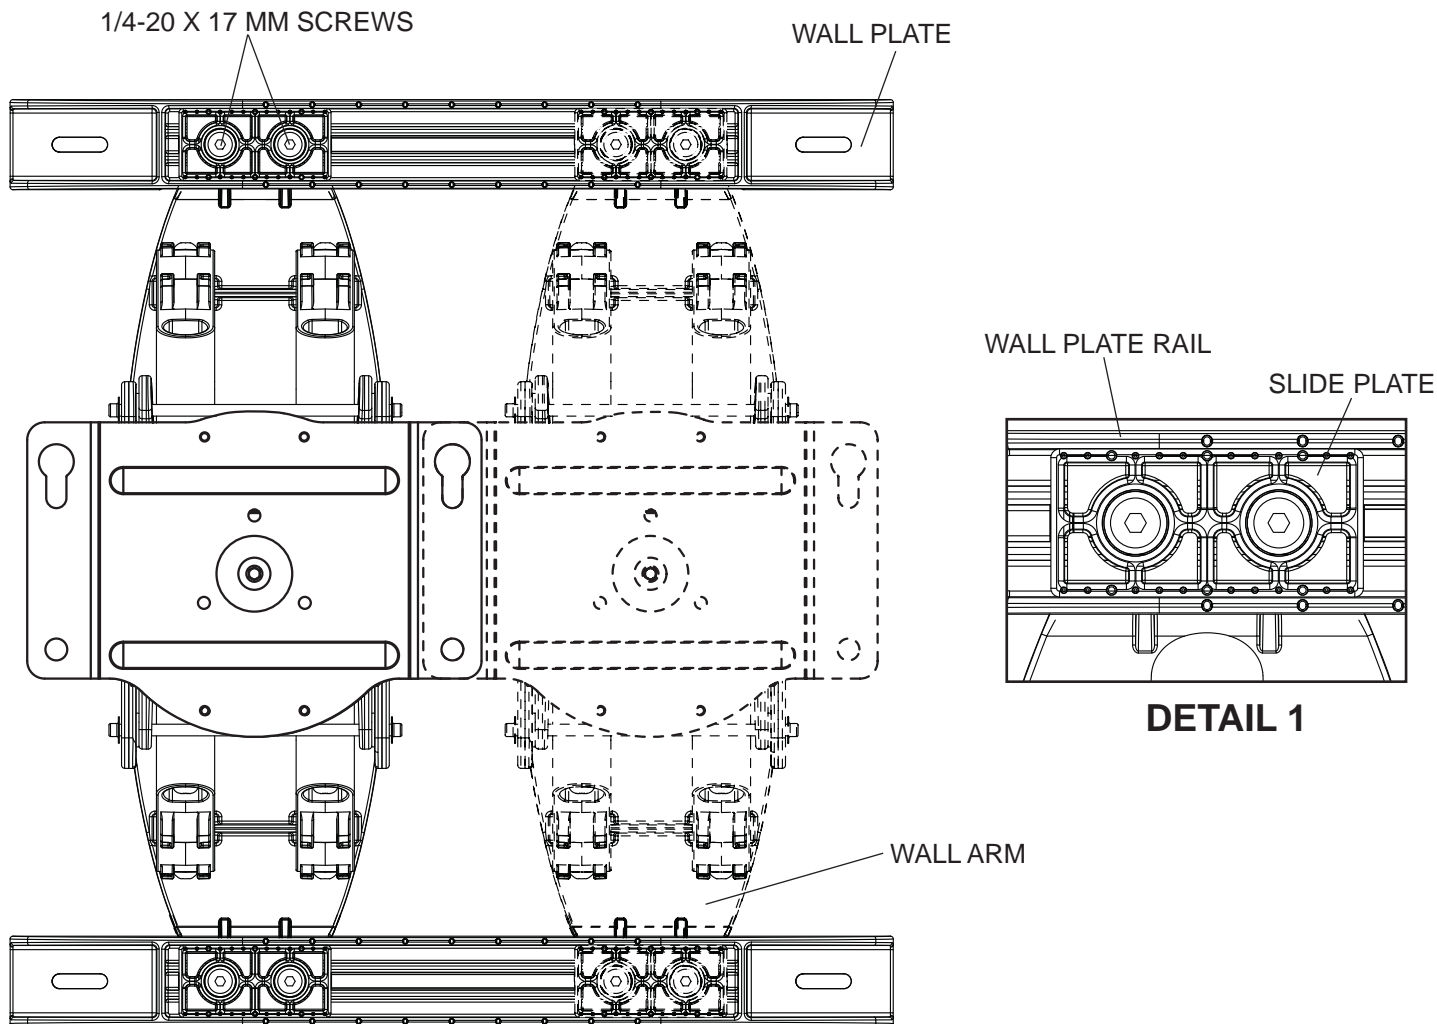

fig. 1.1
Measure the distance from the center of wall arm (A) to desired display center. Loosen four 1/4-20 x 17mm screws using 5mm allen wrench (I). Slide wall arm assembly 4-1/2" to the left or right as shown in figure 1.1. **NOTE:** Align bevels (dots) of slide plate with bevels (dots) of wall plate rails as shown in detail 1 then retighten 1/4-20 x 17mm screws.